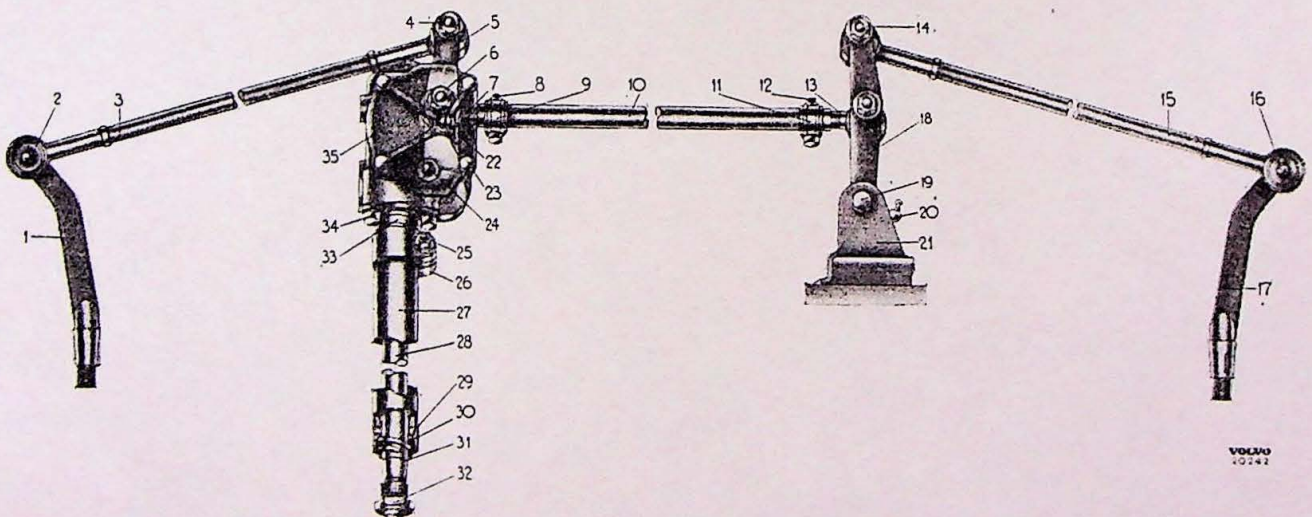

Fig. 17.
The movement is transferred from the Pitman arm (5 fig. 17) to the wheels via tie rod (10),
This steering gear gives the car a turning circle of 10 m (323/4 ft.). The number of steering wheel turns lock to lock is 31/4. See fig. 17—19 for particulars in design.